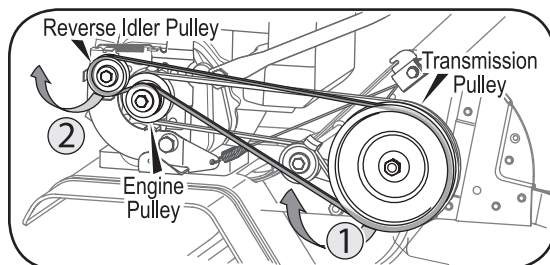

Figure 5-2: Reverse drive belt removal.
3. Remove belt from transmission pulley and then from around the reverse idler pulley. See Figure 5-2.
4. To reassemble new belt. Follow instructions in reverse order. Be sure to place wider side of belt against transmission and idler pulley while slimmer side goes over the engine pulley. See Figure 5-2.
**NOTE:** Upon reassembly, make certain the belt is routed over the idler pulley and inside of belt keepers by engine pulley. See Figure 5-2.